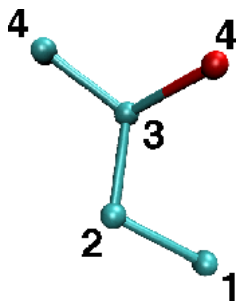

Figure 4: Number labels for atoms which are a given amount of bonds away from one another
- **exclude**: specifies which atomic interactions are to be excluded from consideration. See Figure 4 for general atom labels. The **scaled1-4** value indicates that interactions between any such atoms 1 and 3 are neglected and interactions between atoms 1 and 4 are modified. The van der Waals interaction for “1-4” atoms are modified using special 1-4 parameters defined in the parameter files, and electrostatic interaction is modified as shown in the next command.